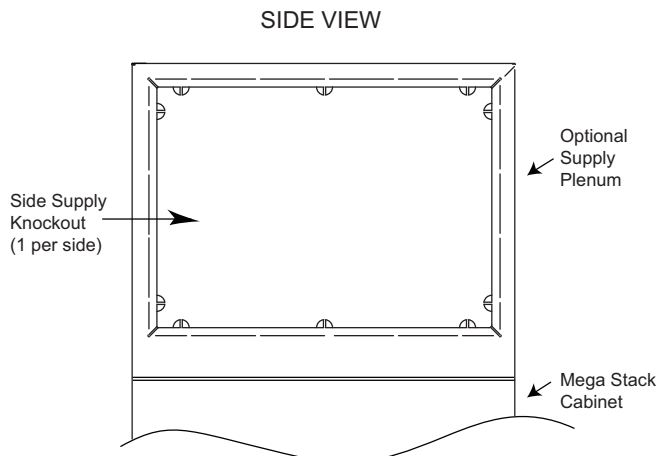

Fig. 34 — 42SMA Unit Knockout Locations Side View (Typical)
1. If the unit has been ordered with a supply air plenum, then each side of the unit has one supply air knockout as well as a supply air knockout on the top of the unit (see Fig. 34 and 35).